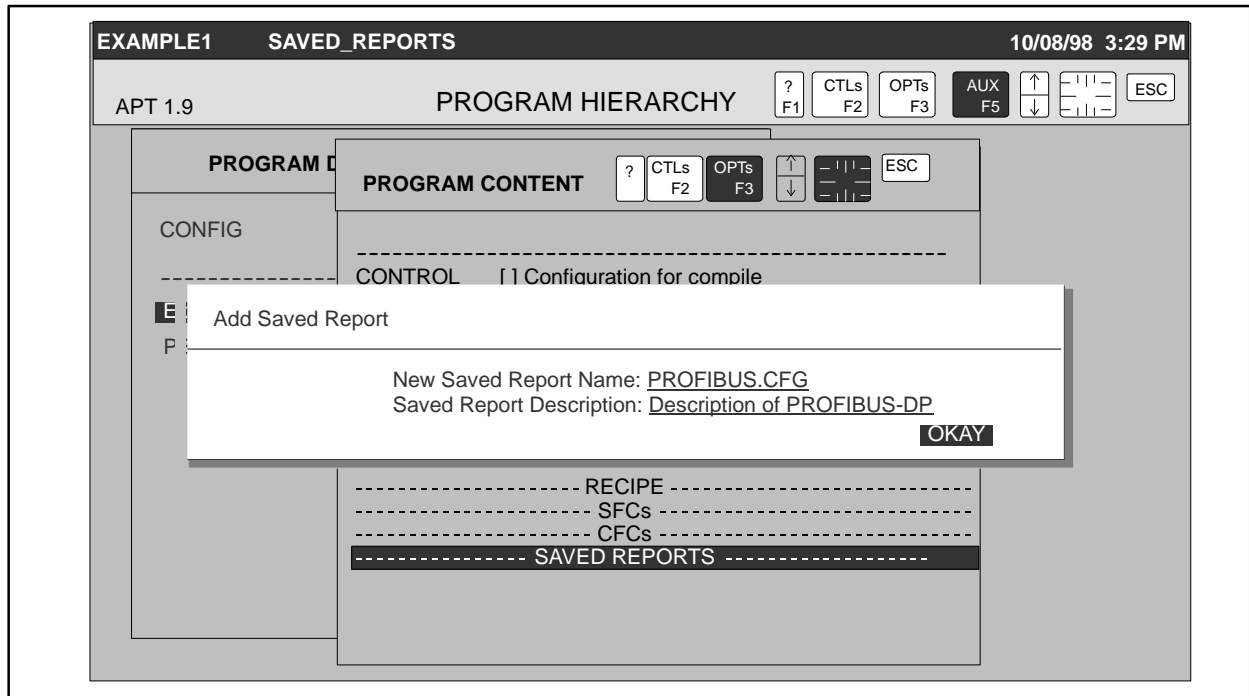

Figure 9-14 Naming the PROFIBUS.CFG File
3. Name the report PROFIBUS.CFG (Figure 9-14).